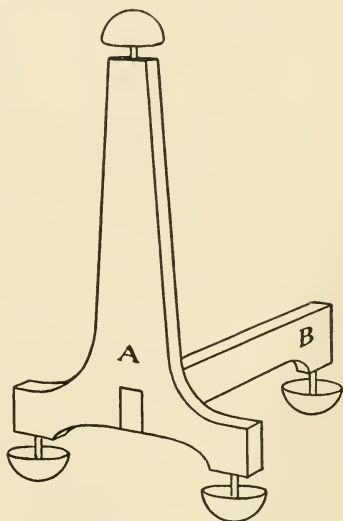

FIG. 95.—Andiron.
**Andirons** should, of course, accompany the fire-place. These may be made as shown in Fig. 95. They consist of two pieces of cigar-boxes cut the shape of *A* and *B* (*A* an inch and one-half by an inch and one-quarter, and *B* an inch and one-half long), with the end of *B* glued in a slot cut in the lower part of *A*. The feet and the